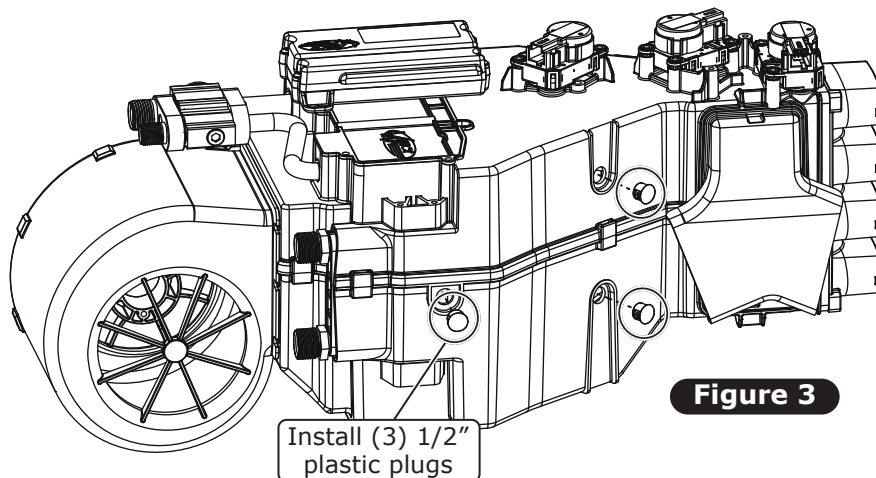

Figure 3
2. Install (3) 1/2" plastic plugs as shown in Figure 3, below.